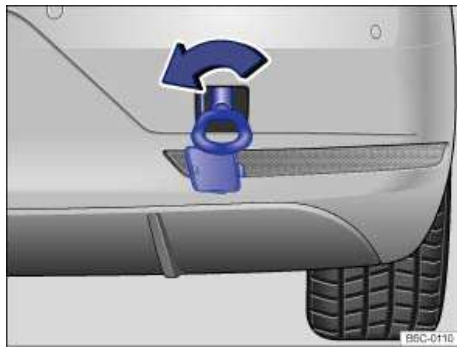

Fig. 188 In the right rear bumper: Installing the towing eye.
There is a threaded hole for the towing eye in the right rear bumper behind a cover ⇒ fig. 188, ⇒ .
- Screw the towing eye **counterclockwise** into the threaded hole as far as it will go (arrow) ⇒ fig. 188 ⇒ . Use the lug wrench to turn and tighten the towing eye completely and securely.